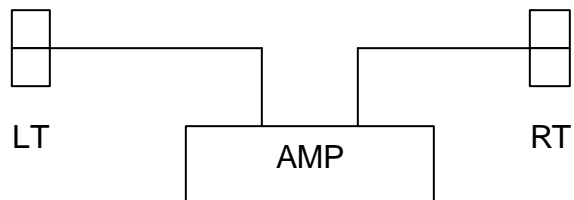

Figure 2
4. Repeat these steps for connection of all speakers to the system. Typical diagrams are shown for the MNC and MNCS systems. (See figures 2 through 4.)